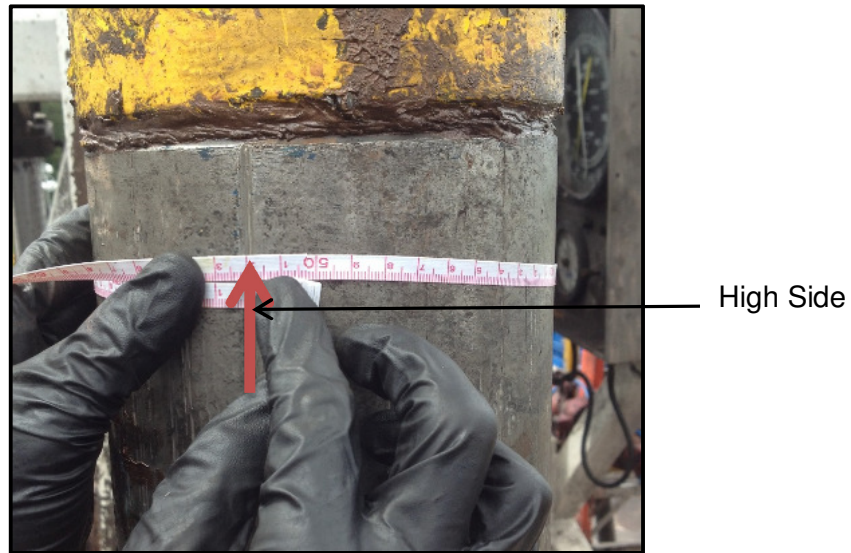

Figure 13 Circumference of the Gap Sub
11. Measure the circumference of the Gap Sub. As illustrated in the example in Figure 13 the circumference is 52 units; this corresponds to 360°.